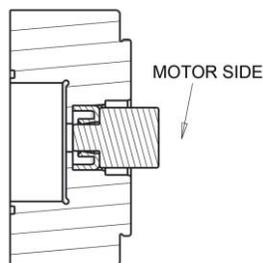

Figure 3
5. Install new seal. An arbor press or bench vise is preferred for pressing the seal squarely into bore. Ensure that the seal (**Figure 3**) bottoms out on the pump housing. Lubricate the seal lip with grease or oil to reduce friction on the motor shaft contact surfaces.